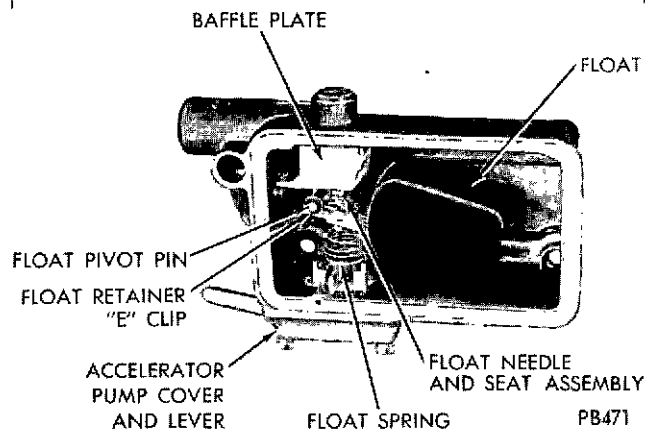

FIG. 35 Fuel Bowl Assembly Internal Adjusted Needle and Seat
12. Internal Needle and Seat: Remove float retainer "E" clip, then slide float and spring out of float chamber. Remove baffle, fuel inlet valve and seat. Discard gasket (Figure 35).
#### FUEL BOWLS WITH INTERNAL ADJUSTED FUEL INLET NEEDLE AND SEAT (Figure 35)